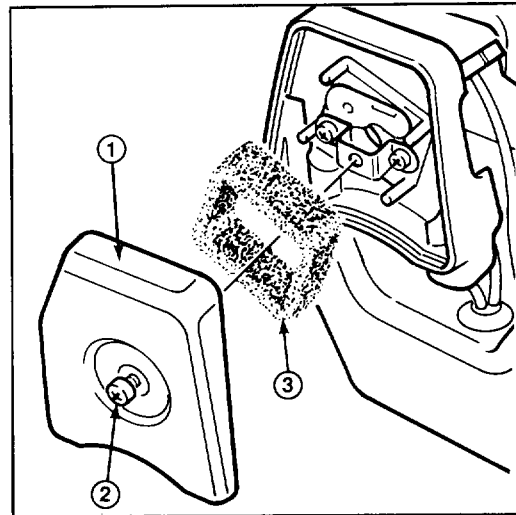

Figure 17
## SERVICING AIR CLEANER (Fig. 17)
5. Reinstall air cleaner components as shown in Figure 17.